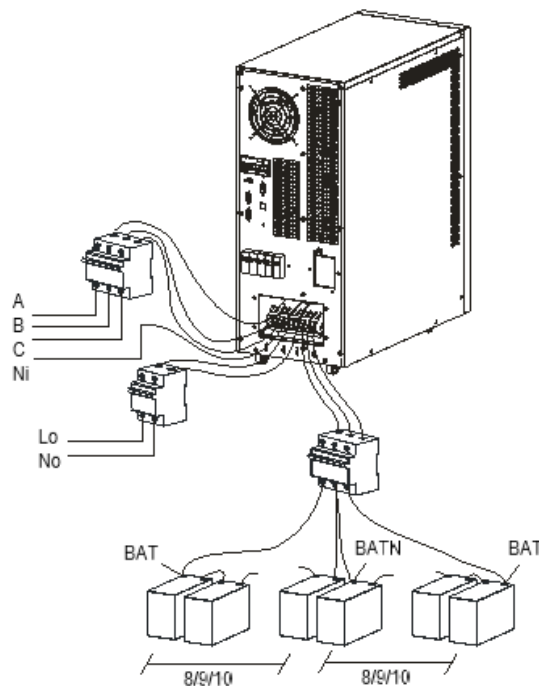

Fig. 5-2 10k/15k/20k External battery connection
- 4) Connect battery pole with positive pole, common pole and negative pole to battery connector (BAT+, BATN, BAT-), **don't reverse battery connection** (Fig. 5-2).